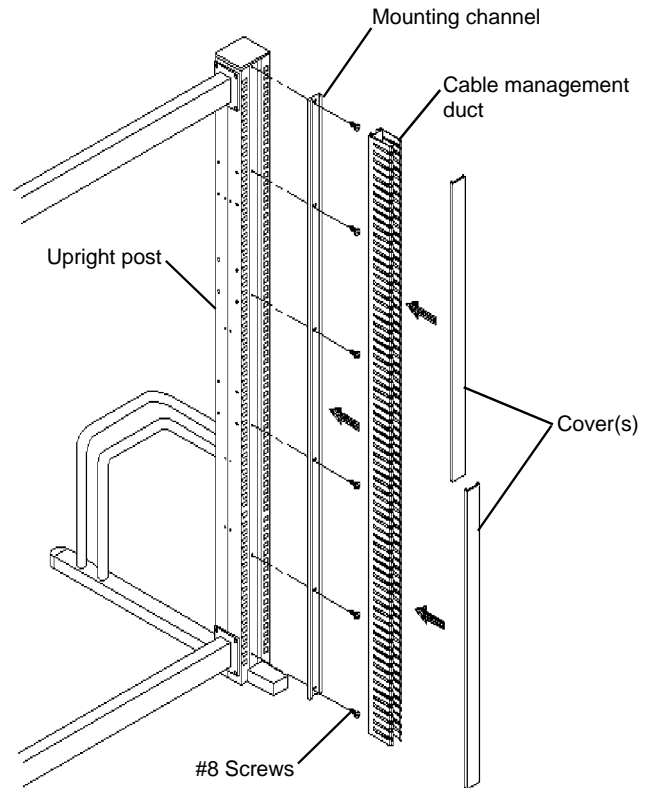

Figure 1
1. The rear of the **Upright Post** has a recessed area with a row of small holes. Align the holes in the **Mounting Channel** with the Post holes and attach with the #8 screws. *Starting at the top*, snap the **Cable Management Duct** into the channel. **NOTE:** It is meant to be a tight fit, so use of a mallet and block to tap the duct in place may be necessary. Once started, continue tapping it in, moving down a few inches at a time. Next, install the **Cover(s)**. See **Figure 1**.